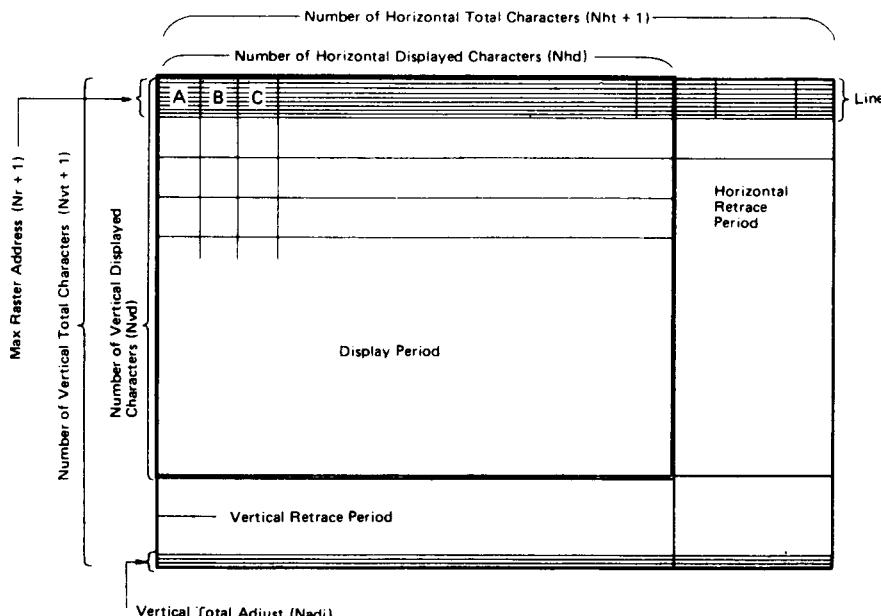
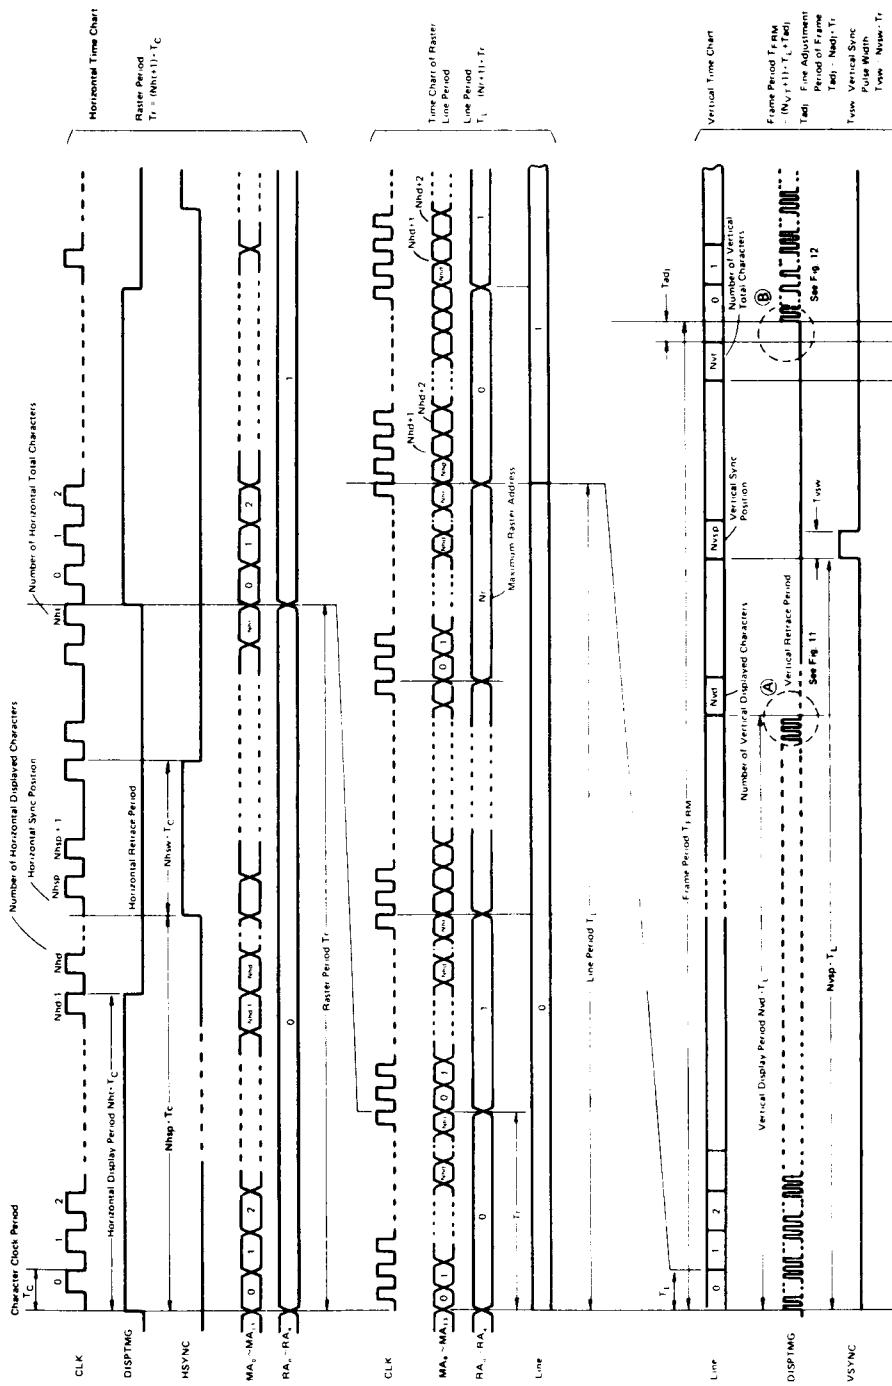

Figure 7 CRT Screen Format
Figure 10 CRTC Time Chart
The following example shows the display operation in which values of Table 8 are programmed to the CRTC internal registers. Fig. 7 shows the CRT screen format. Fig. 10 shows the time chart of signals output from the CRTC.
(Expansion of Fig. 10- ⑤)